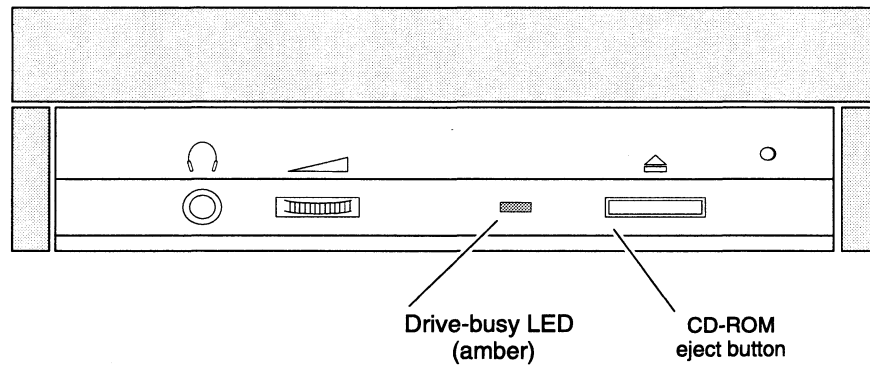

Figure 13 Cartridge eject button and drive busy LED
4. Press the CD-ROM eject button located on the lower right corner of the drive's front panel, as shown in Figure 13.
7. Shut the drawer. The busy indicator shown in Figure 13 will blink several times during the CD-ROM drive self-test and then turn off. If the drive does not behave in this manner or the busy indicator stays on, refer to the section "Solving operating problems."
2. Press the CD-ROM eject button located on the lower right corner of the drive's front panel, as shown in Figure 13. The drawer will open about 25 millimeters (1 inch). Carefully pull open the drawer of the CD-ROM drive to expose the CD-ROM.
1. While the drive's power is on, press the CD-ROM eject button located on the lower right corner of the drive's front panel, as shown in Figure 13. The drawer will open about 25 millimeters (1 inch). Carefully pull open the drawer of the CD-ROM drive to expose the CD-ROM.